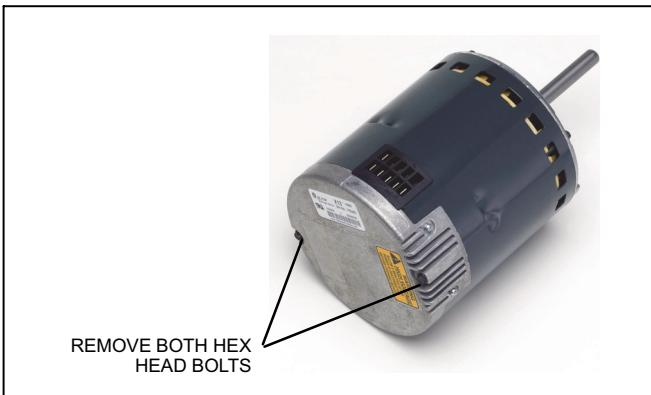

Figure 2. Motor Control Module (Rear View)
4. Remove the two hex head bolts securing the motor control module to the motor (see figure 2).
3. Mount new motor control module to motor using two hex head bolts removed in figure 2. Torque bolts to 22 inch pounds or 1/16th clock turn as exemplified to the right.